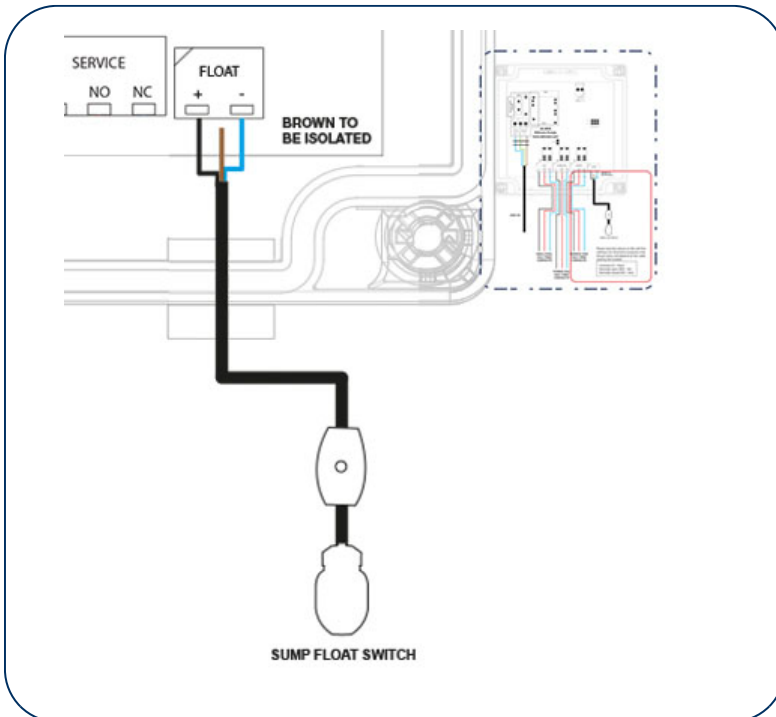

Fig.5 Connecting the sump float to the AquaSafe Alarm
3. Connect the black core to positive and the blue core to the negative terminal, as shown in fig.5.